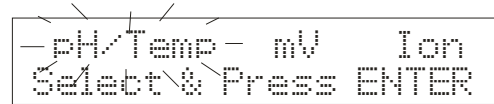
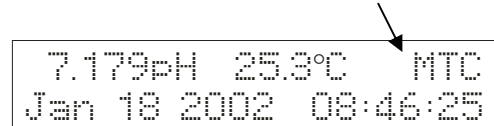

Figure 30
Figure 31
1. Turn the meter **ON**. If the meter is NOT in the pH measurement mode, press **EXIT** and use **>/CAL** to select pH/Temp. The mode selected will flash. See **Figure 30**. Press **ENTER** to confirm selection. The meter is now in pH measurement mode. If the temperature probe is disconnected, the upper display will indicate **MTC**. See **Figure 31**.